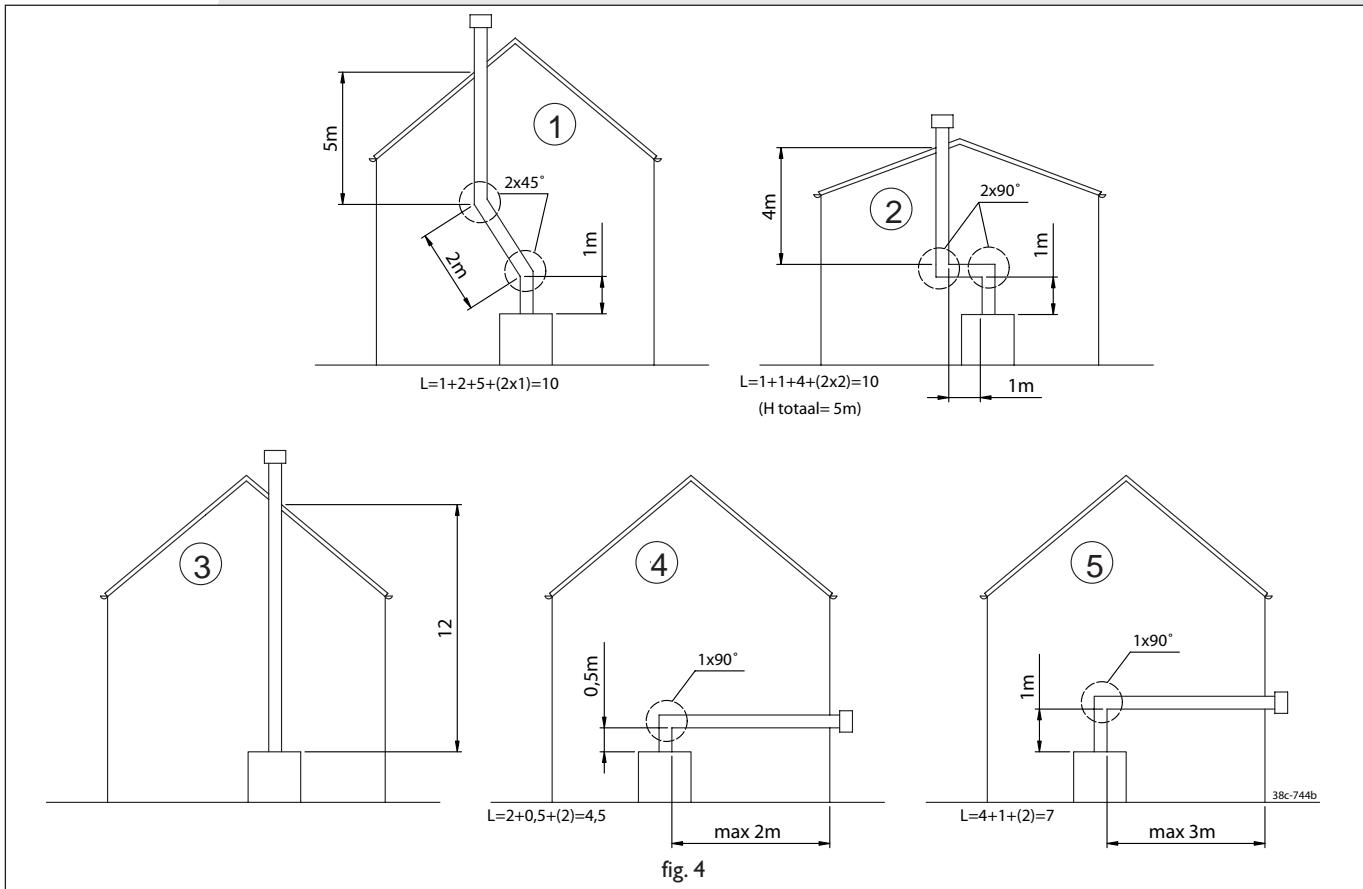

fig. 4
### Possible connections (fig. 4)
- The first metre of pipe should always be fitted vertically, except example 4 in fig. 4.
The maximum total length is the sum of the pipe lengths plus the equivalent length for the bends (see the 5 examples in fig. 4).
Fig. 4 illustrates how to calculate the total lengths of pipe.